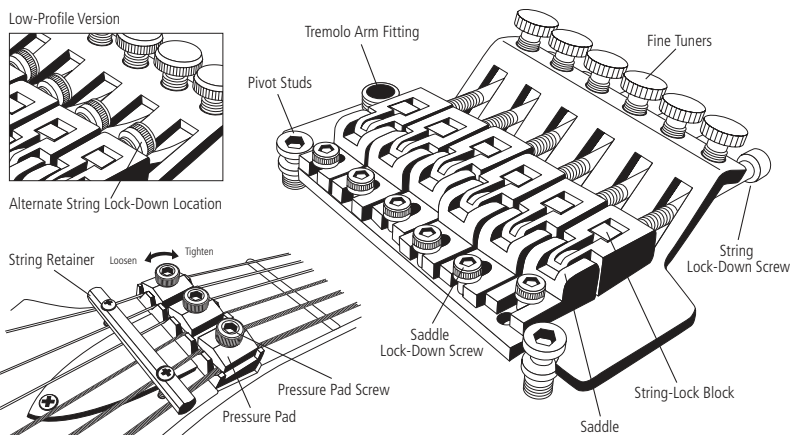

Figure 16: Floyd Rose Double-Locking Tremolo
The Floyd Rose double-locking tremolo was popularized in the early 80's and has remained a popular system ever since. This system locks the strings both at the string saddle and the nut (Figure 16). By locking the string at both locations, there is minimal if any string slippage and almost no friction except at the point of the knife-edge/pivot studs. This results in a guitar that stays in tune extremely well, and allows the pitch of the strings to be manipulated via the tremolo arm or "whammy bar".
Refer to Figure 16:
7. After replacing the desired string(s), tune all strings to pitch, stretch strings, and retune. You will have to re-tune your guitar a few times until the tremolo has settled and the guitar remains in tune. Once your guitar is holding tune, tighten all three pressure pad screws. **Note:** Make sure the orientation of the pressure pads match the drawing in Figure 16. If the pressure pads are not oriented properly in the locking nut, the strings will not lock down properly and you may experience tuning problems.